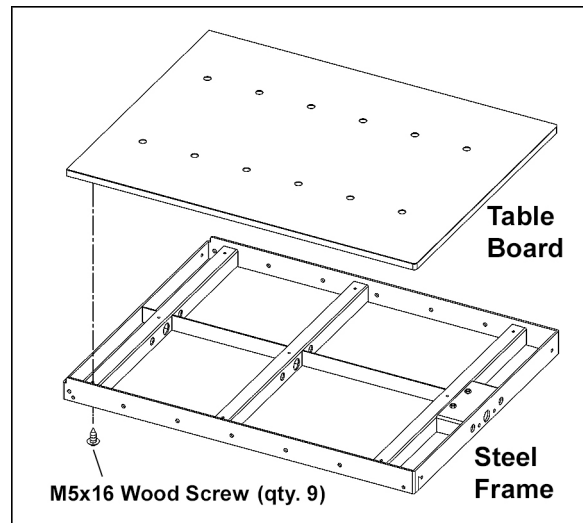

Figure 6
1. Position the *table board* upside down. (Put a mat or cloth under it to prevent scratching the surface.) Place the *steel frame* on top of the table board. Square the steel frame with the table board, and secure using nine *M5x16 wood screws* through the holes in the frame (see Figure 6).